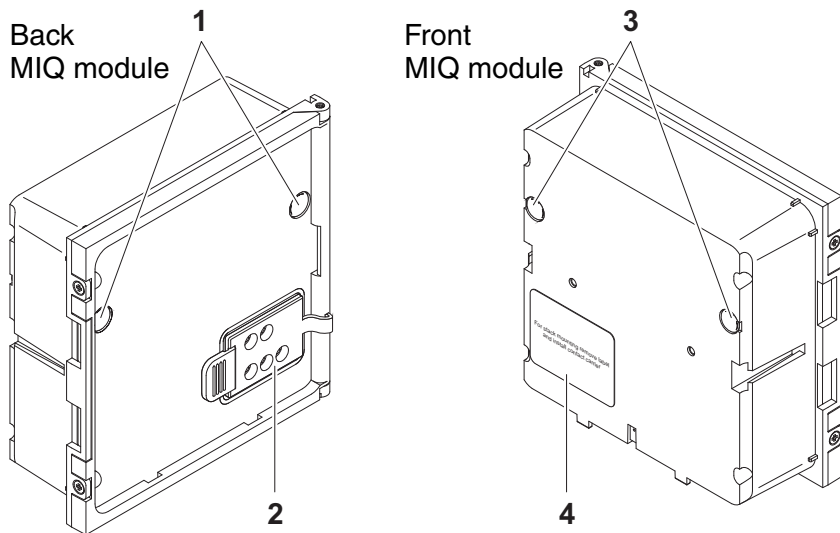

Fig. 3-4 Preparing MIQ modules for stack mounting (variant 1)
1	Remove the covers from the drilled mounting holes (pos. 1 and 3 in Fig. 3-4).